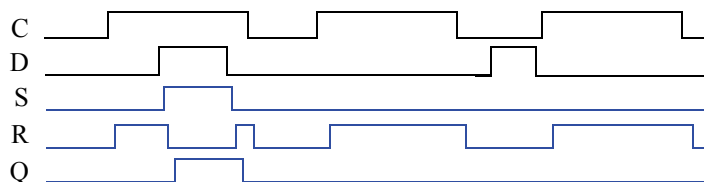

Figure 3.96
- 3.11 Trace the behavior of a D latch (see Figure 3.19) for the input pattern in Figure 3.96. Assume Q is initially 0. Complete the timing diagram, assuming logic gates have a tiny but non-zero delay.